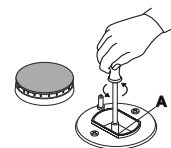

fig.13
- Unscrew the nozzles (fig. 13), using a 7 mm socket spanner and replace them with nozzles for the new type of gas (see table 1 "Burner and nozzle characteristics"). Reassemble the parts following the above procedure in the reverse order.